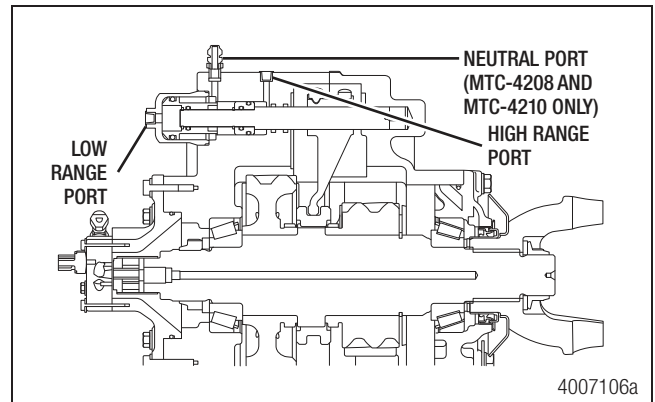

Figure 5.18
2. Disconnect the air lines used to shift in the previous steps. Figure 5.18.